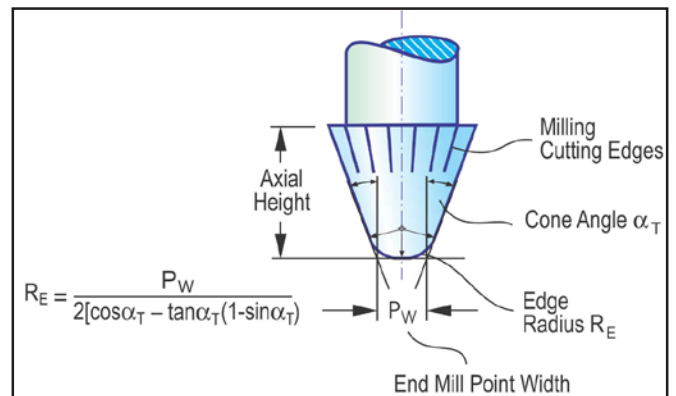

Figure 19 Fully rounded end-mill tip.
For the correct dimensioning of the edge radius R_E it is advisable to calculate first the maximum possible edge radius for the given dimensions. In addition to the cone angle α_T , the end-mill point width P_W is required. The end-mill point width should match the Blade Top Width (item 09, Fig. 18). A larger P_W can be used within limits, however P_W cannot be larger than the smallest point width of the gear slot (item 8 in top section in Fig. 18). The formula in Figure 19 is used to calculate the largest possible edge radius for the end-mill R_E . In the present case, using $P_W = 1.84$ mm, the largest possible edge radius is $R_E = 0.65 \cdot P_W = 1.2$ mm. After R_E is calculated, it has to be compared to the Edge Radius Pressure Angle Side (item 06 in Fig. 18). If the result of R_E is smaller than item 06 in Figure 18, then the calculated number of R_E must be used for the end-mill.